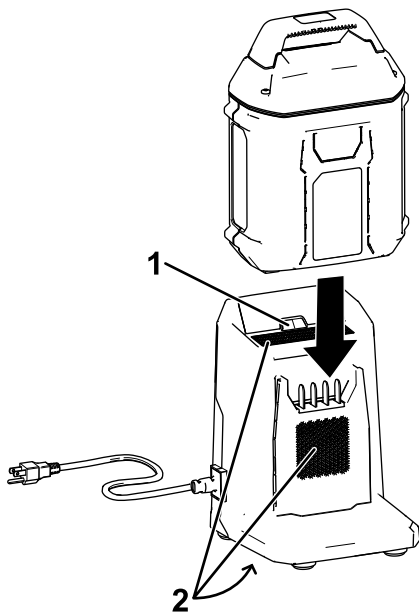

Figure 16
4. Slide the battery pack into the charger until it is fully seated (Figure 16).